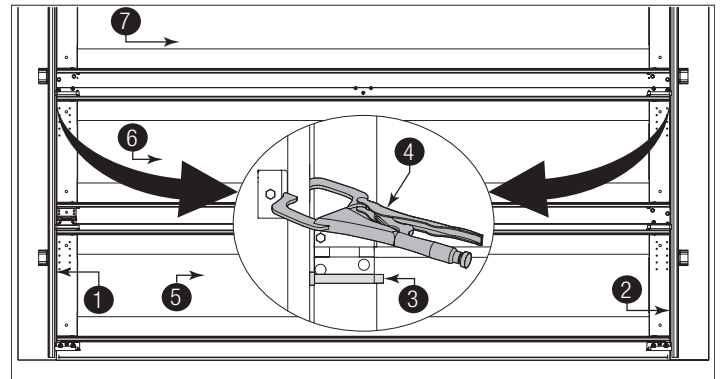

Figure 37
**NOTE:** If ratchet wheel falls out of end bracket, refer to Figure 37 for proper insertion orientation.
See Figure 37 for the following steps.